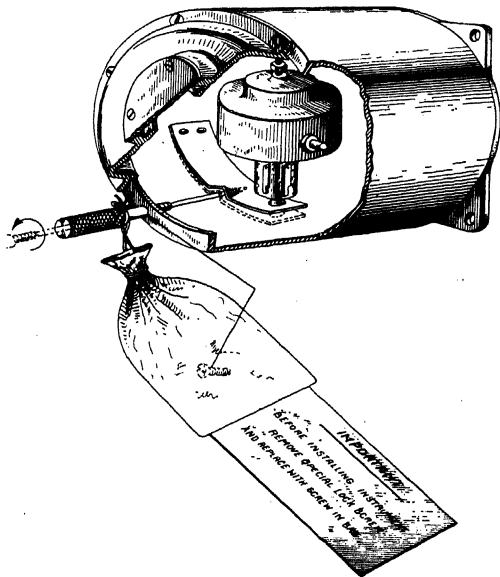

FIG. 70.—Replacing lock screw with special cadmium-plated screw.
**Inspection.**—After every 300 to 400 hr. of operation it is advisable to have the instrument removed from the airplane and inspected, only, however, by an authorized instrument service station which has at its disposal the special tools and fixtures necessary for disassembly, inspection, and calibration of these instruments. Otherwise, the instrument should be returned to the Sperry Gyroscope Company, Inc., or their representative for inspection. For the gyro-horizon, insert the lock screw as shown in Fig. 70, unless the
After unpacking the instrument, remove the lock screw and replace it with the cadmium plated (white) case screw contained in the bag (see Fig. 70).